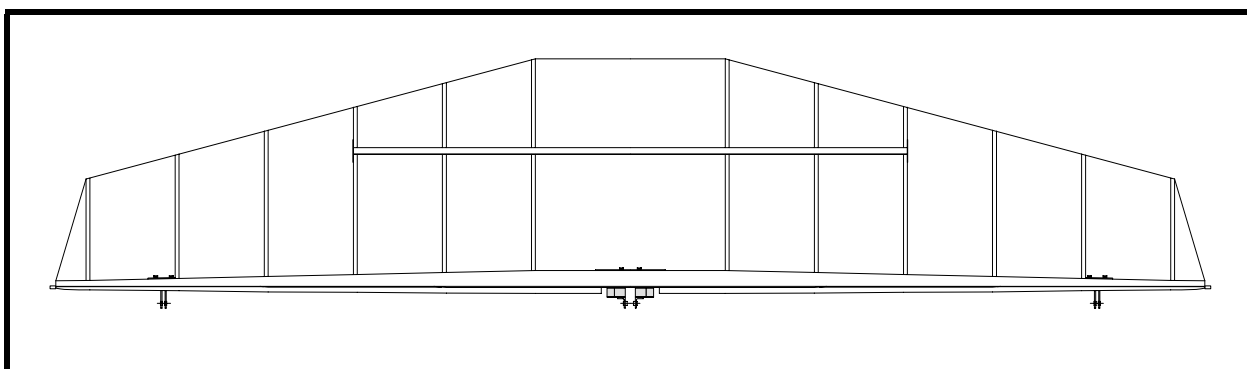

Figure 8
- ☐ Fit the remaining ribs. See Figure 8. If you wish, you may fit the Sta. 0 ribs (see Drawing No. 401), but these ribs are not installed until after the fuselage skin is installed.